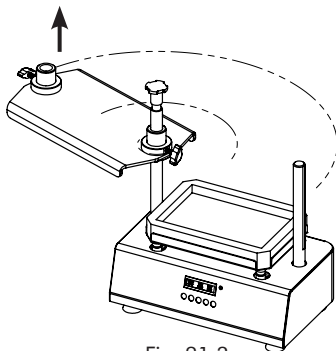

Fig. 21.3
- Pull up the top cover and rotate counterclockwise as shown in the fig.21.3.